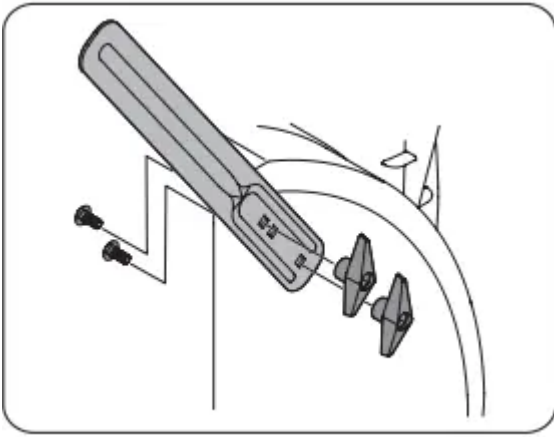

Figure 44
- Attach the drift cutters with the screws and wing knobs on the outside of the auger housing as shown in Figure 44.